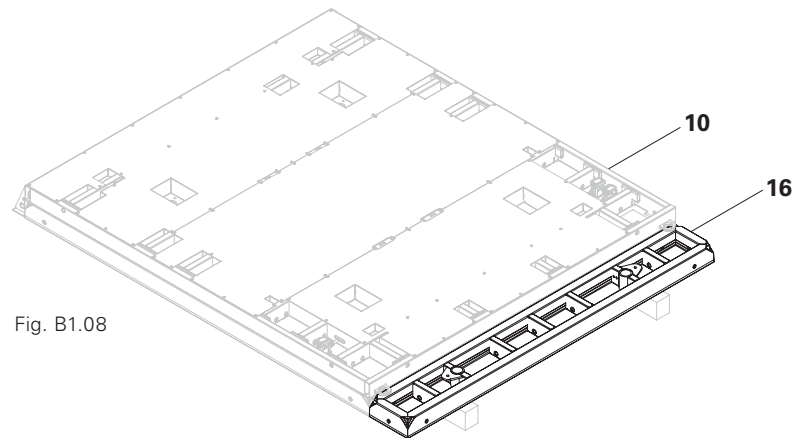

Fig. B1.08
1. Position Panel MX 30 (17) on the Heated Formwork Panel (10) or Extension Heated Formwork Panel at the top. (Fig. B1.08)